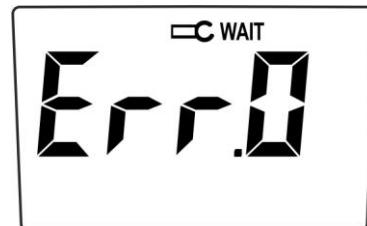

Fig. 4
3. If, during the instrument's calibration process, the clamp is opened before calibration process is complete the “Err.0” message is displayed (see Fig. 4). After the clamp is closed, the calibration process starts once again automatically from the beginning.